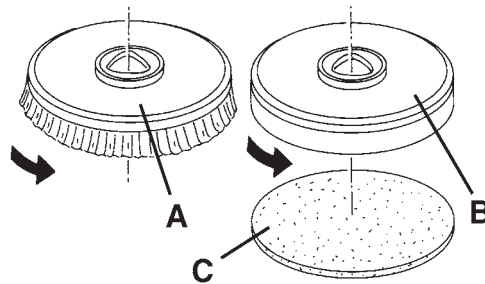

Figure 2
1. According to the kind of cleaning to be performed, the machine can be equipped either with brushes (A, Fig. 2) or pad-holders (B) with pads (C) together with the appropriate deck.
2. Insert the ignition key (80) and turn it to "I".
3. If equipped, turn the speed adjuster (84) to idle by turning it counter-clockwise.
4. Place the brushes (A) or the pad-holders (B) under the appropriate deck (18a) or (18b).
5. Lower the deck on the brushes/pad-holders by pressing the pedal (11).
6. Turn the ignition key (80) to "I".
7. Press the brush/pad-holder switch (71).
8. Press one of the switches (83) to engage the brush/pad-holder, then release it. If necessary, repeat the procedure until the brushes/pad-holders are engaged.